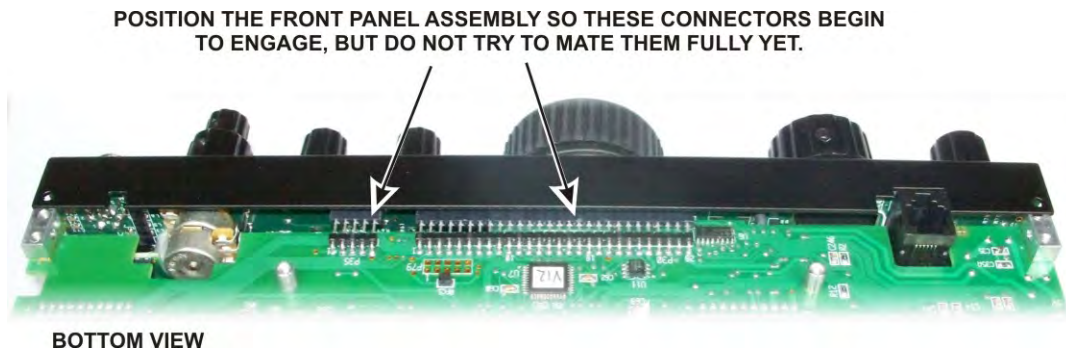

Figure 20. Mounting Front Panel Assembly - Mating P30 and P35.
- Turn the chassis upside down and position the front panel so the pins of P30 and P35 on the bottom of the RF board just begin to engage the connectors on the lower edge of the front panel assembly as shown in Figure 20). Do not fully mate them yet.